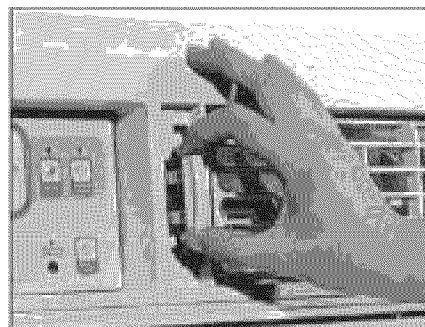

Fig. 2 (FRESH AIR)
2. Draw fresh air into the room - Vent Open (see Fig. 2)